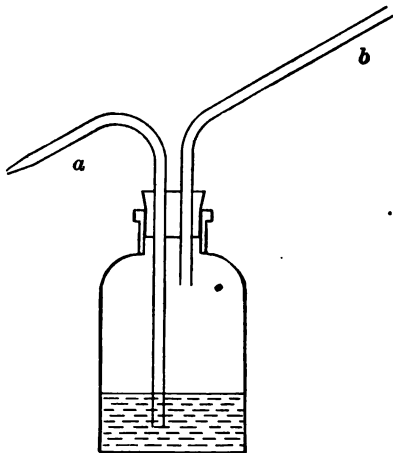

FIG. 14
77. Fit two tubes, *a* and *b*, into the 2-hole stopper of a 4-ounce bottle. Bend and adjust these as in Fig. 14. Put water in the bottles as the figure indicates. Blow into *b*. State the result and account for it.